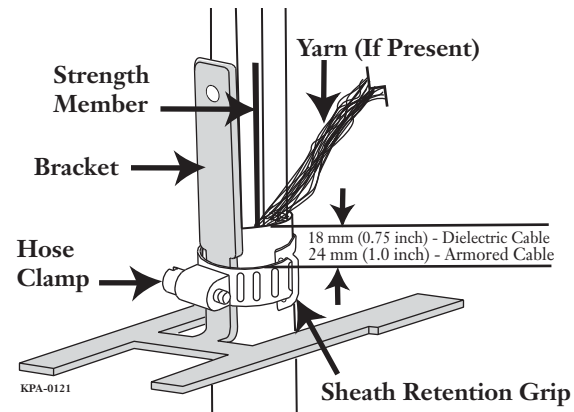

Figure 9 — Strain-relief Bracket
Step 1: Trim the central strength member(s) flush with the top of the strain-relief bracket (Figure 9).